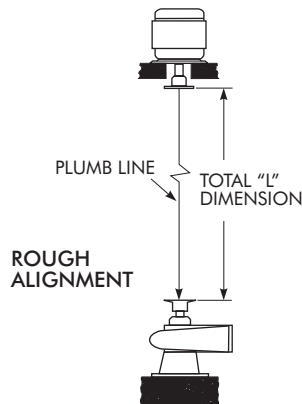

Figure 3
C. Rough Alignment — Adjust the equipment so that the coupling hub flanges are horizontally level. Use a plumb line. Attach one end of the string to the center of the driver shaft using an eye bolt. If shaft is not tapped, a strap clamped across the hub face may have to be used. Now extend the plumb line string down so that the point of the plumb bob is just above the center of the driven equipment shaft enter. Move the driver horizontally to get the plumb bob as close to the shaft center as possible. See Figure 3.